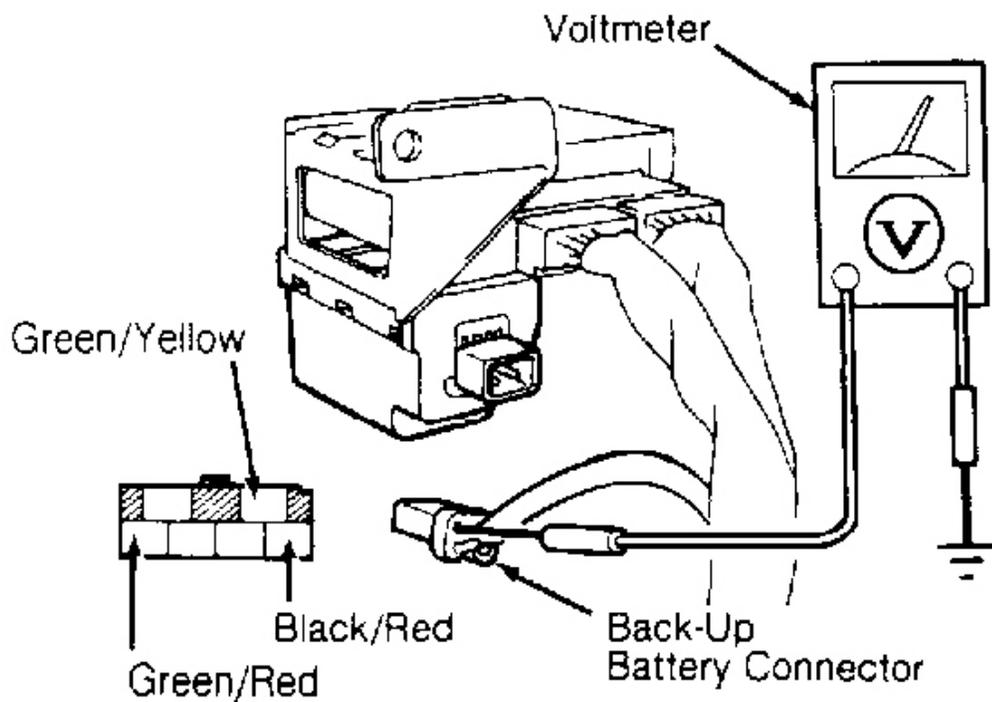
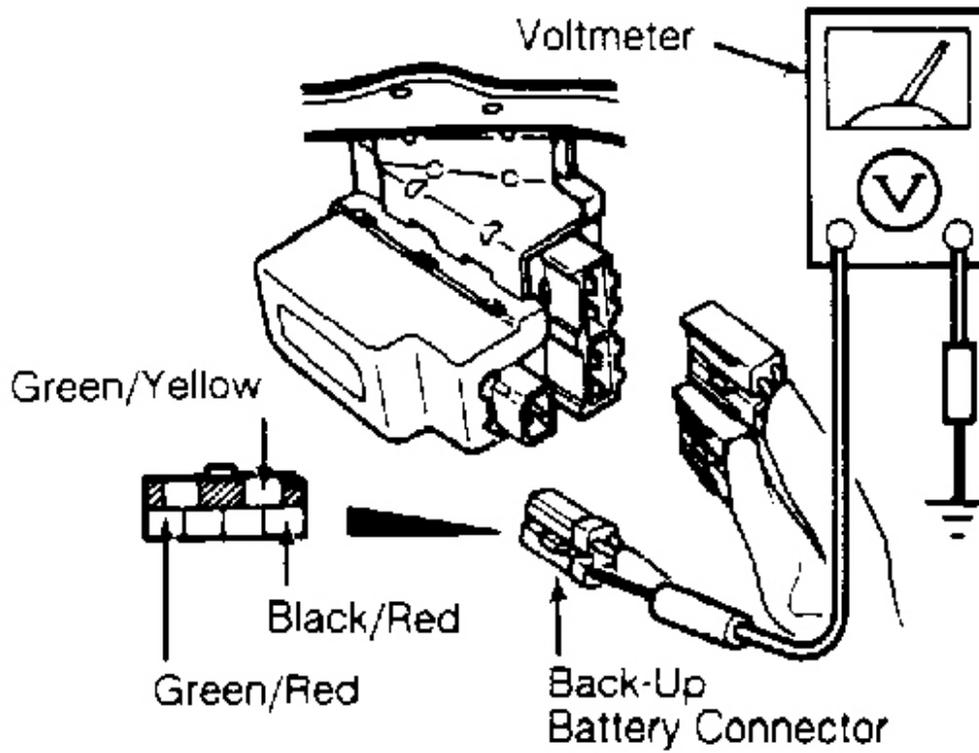

Fig. 8: Checking Back-Up Battery Connector (Miata)
Fig. 9: Checking Back-Up Battery Connector (RX7)
3. Reconnect negative battery cable. Measure voltage between Green/Red wire of back-up battery connector and ground. See **Fig. 8** or **Fig. 9** . If voltage is zero volt, replace wire harness assembly.